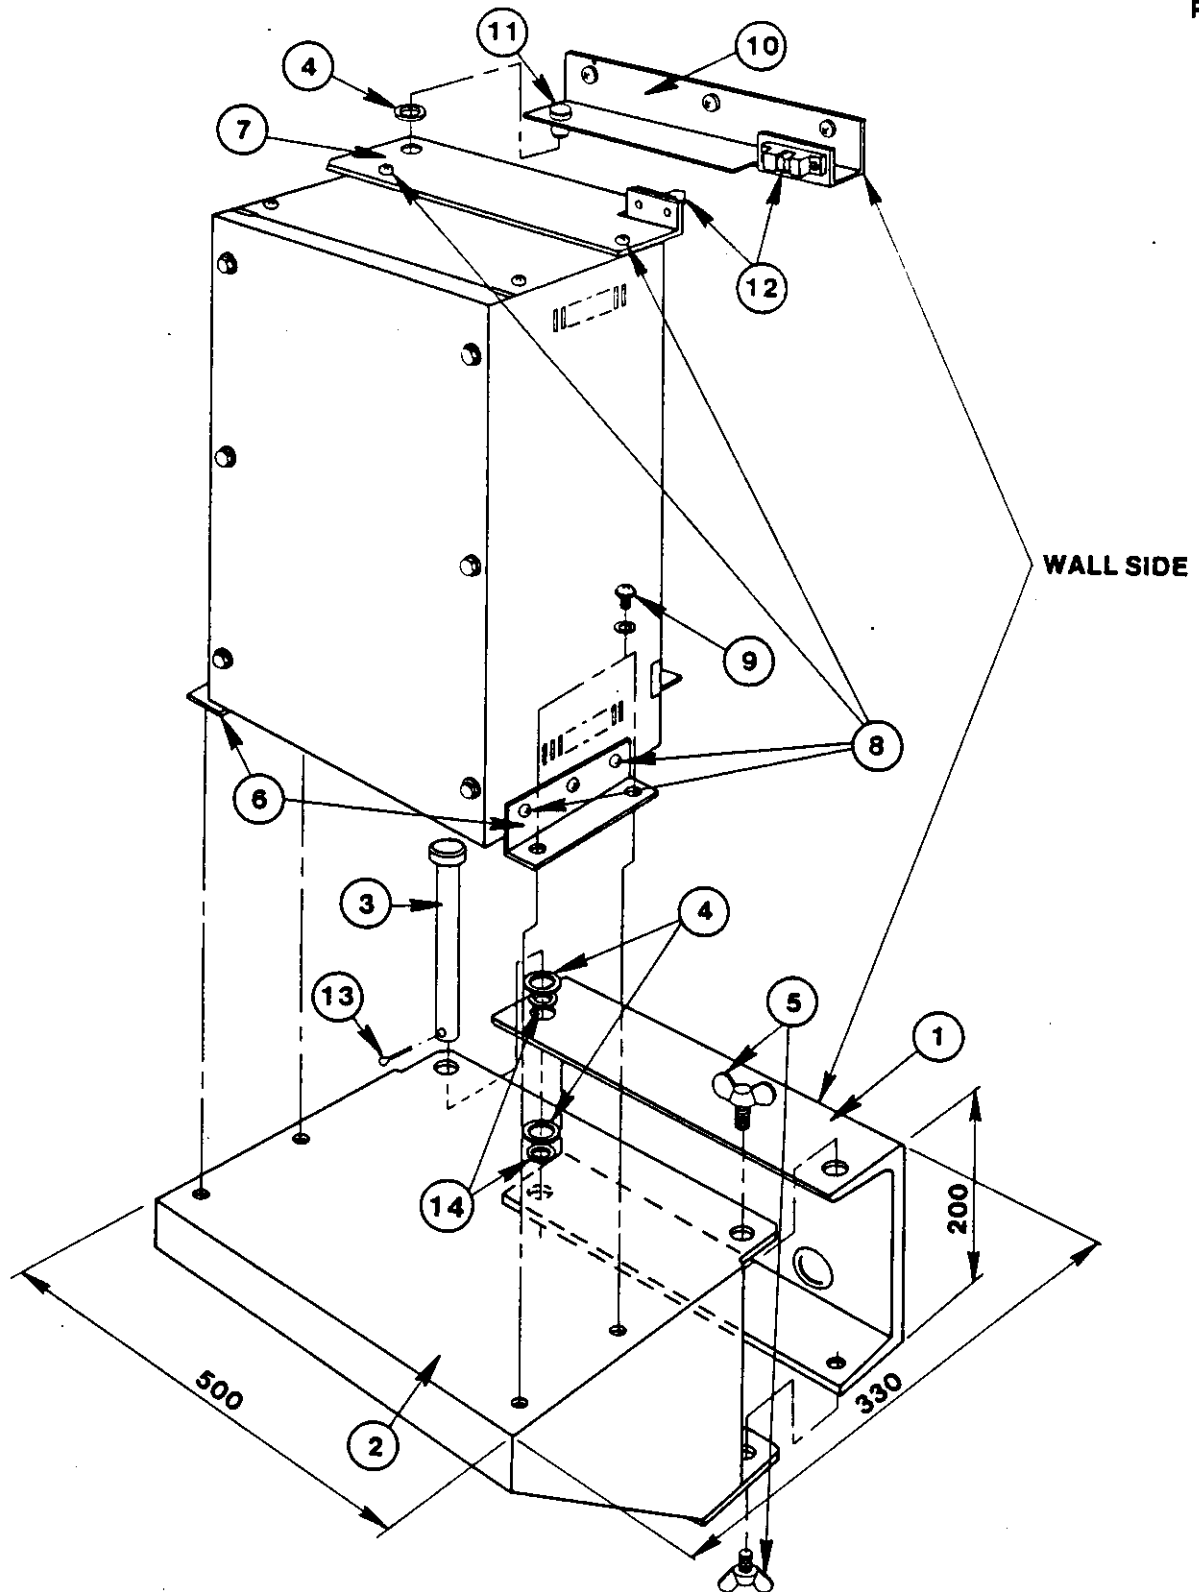

FIGURE 4—WALL MOUNT KIT ASSEMBLY DIAGRAM
3.2 The Wall Mount Kit should be installed in the following sequence (part numbers are identified in Figure 4):
3.2.5 Attach the Main Shelf (2) to the Lower Wall Bracket (1) using the Hinge Pin (3) and
insert two of the Plastic Washers (4) and four 1/2" steel washers (14), in the locations shown in Figure 4. Place the Cotter Pin (13) through the hole in the bottom of the Hinge Pin and spread the Cotter Pin.
3.2.6 Make certain that the Main Shelf (2) swings freely and then bring it to the closed position and secure it using the two Wing Bolts (5) as shown in Figure 4.
3.2.9 Remove the Wing Bolts (5) and carefully swing the Main Shelf/EKSU assembly far enough from the wall to allow the Top Wall Plate
(10) to be attached to the Top Pivot Plate (7) by inserting the pin (11) on the Top Wall Plate through the hole in the left side of the Top Pivot Plate and inserting the Plastic Washer (4) as shown in Figure 4.